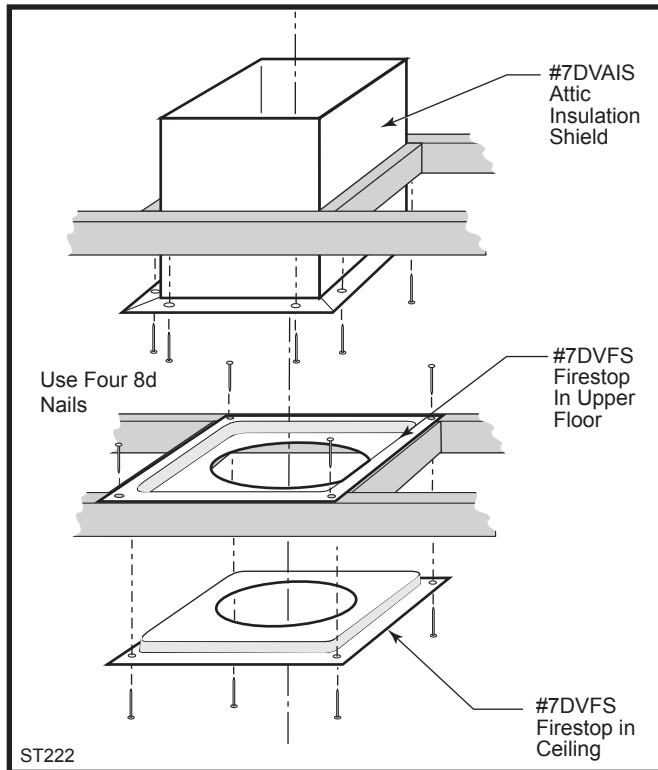

Fig. 30 Install firestops and attic insulation shield.
6. Install firestop(s) #7DVFS and Attic Insulation Shield #7DVAIS as needed. (Fig. 30) If there is a room above ceiling level, a firestop must be installed on both the bottom and top sides of the ceiling joists. If an attic is above ceiling level, an attic insulation shield must be installed.